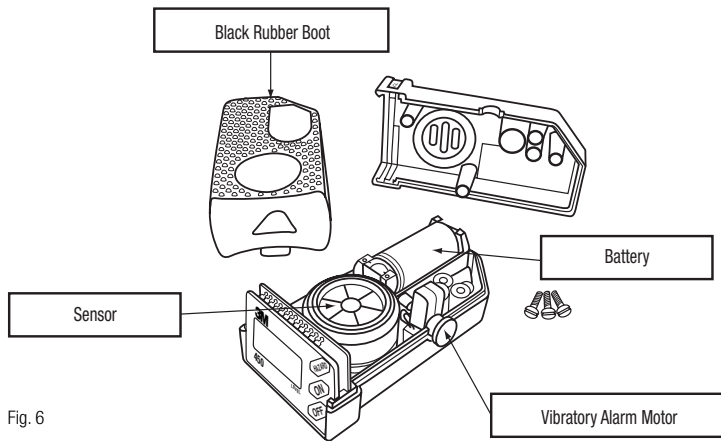

Fig. 6
3. The lithium battery is now exposed and ready for replacement (Fig 6).
3. The sensor is now exposed and ready for replacement (Fig 6).
3. The vibrating alarm motor is now exposed and ready for replacement (Fig. 6).